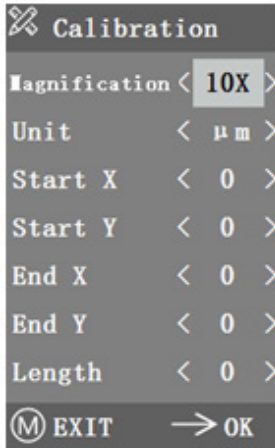

Figure 5-7
2. Access the Calibration menu, as shown in Figure 5-7.